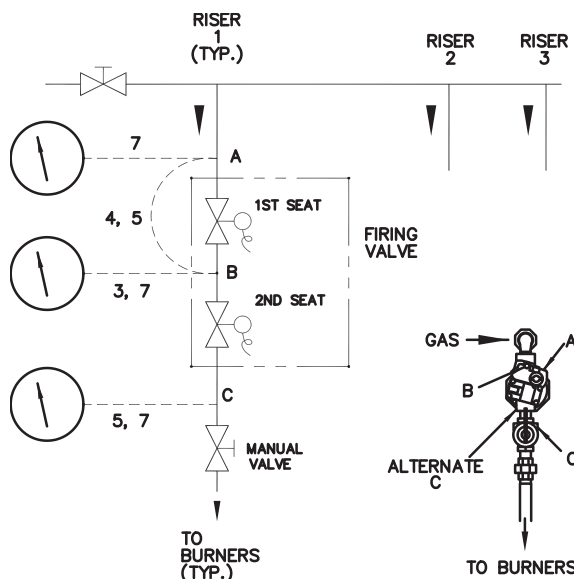

Fig. 46: Leak Test
Refer to Fig. 46. The numbers on the diagram refer to the steps below:
6. Perform leakage test on gas valves. (See Fig. 46.)